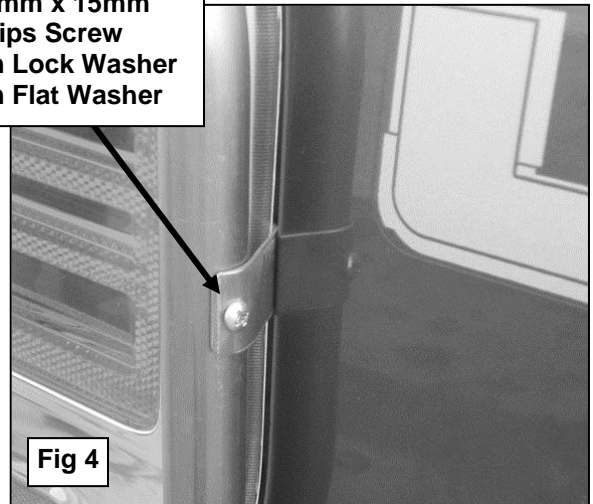

Fig 4
7. Attach the Taillight Guard to the Support Bracket using the included (1) 4-.70mm x 15mm Phillips Screw, (1) 4mm Lock Washer, (1) 4mm Flat Washer **(Figure 4)**.